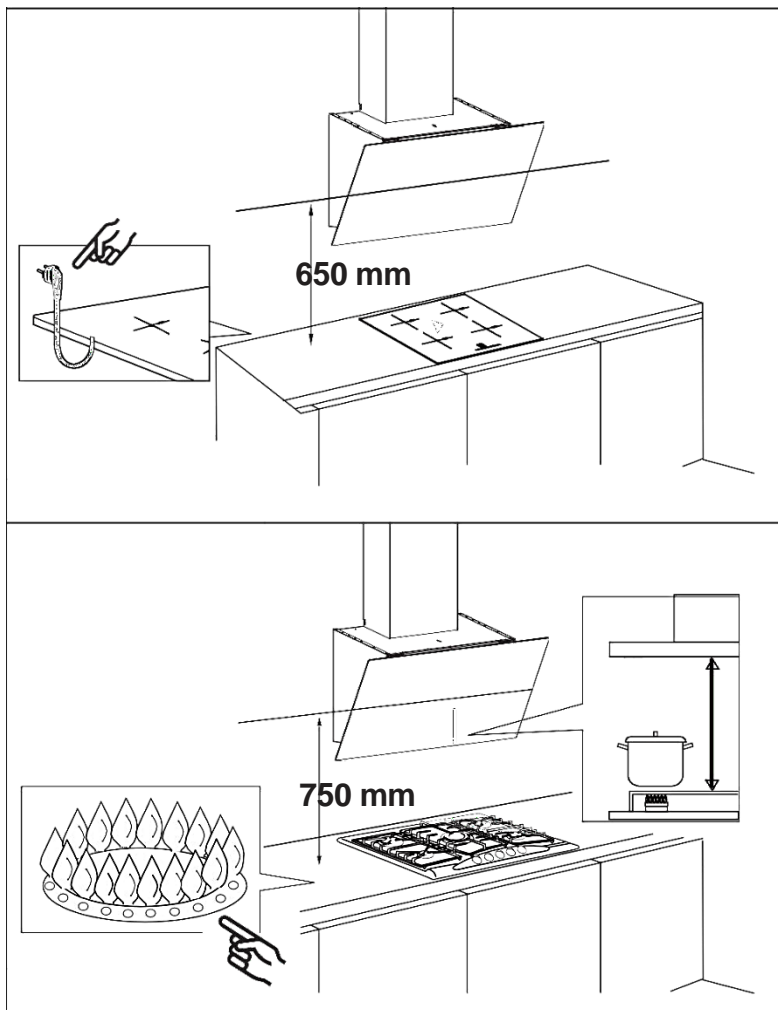

Fig. 3
2. Recommend installation height: 65~75 cm above the cooktop for best extraction. (see Fig. 3)